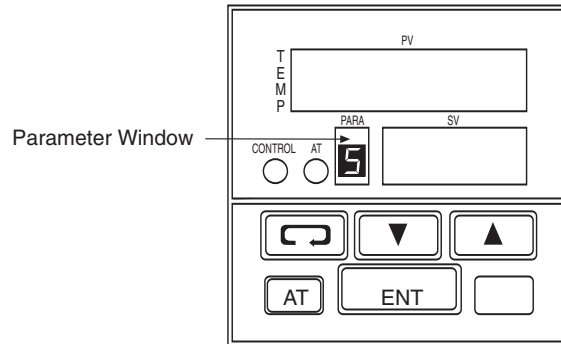

**Figure 5-1. °F/°C Temperature Selector Switch Location**
4. Determine whether you are going to test probes in °F or °C. Set the temperature selector switch to °F or °C. Refer to Figure 5-1.